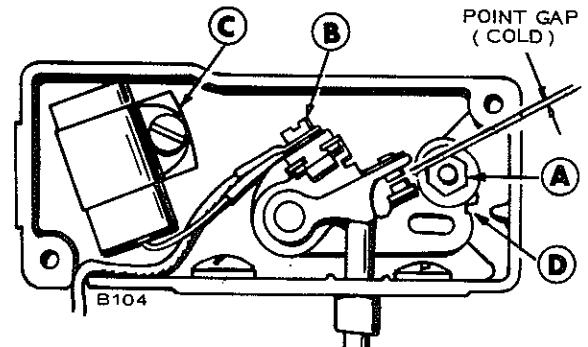
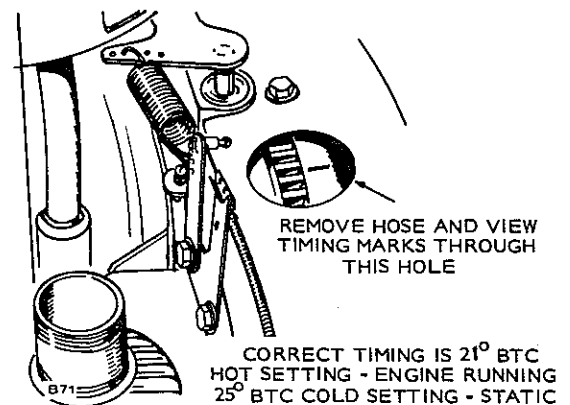

FIGURE 10-25. SIDE ADJUST POINTS
FIGURE 10-26. TIMING MARK — BF-BG ENGINES
3. Refer to Figure 10-25. Remove mounting nut (A) and pull points out of the box just far enough so screw (B) can be removed and leads disconnected.
4. Remove screw (C) and replace condenser with a new one.
5. Replace points with a new set but do not completely tighten mounting nut (A).
6. ON INDUSTRIAL ENGINES: Remove air intake hose that connects to blower housing. This provides an access to view timing mark, Figure 10-26.